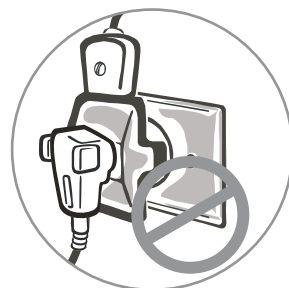

Fig. 2
4. Do not use an extension cord or plug adaptor.(Fig.2)